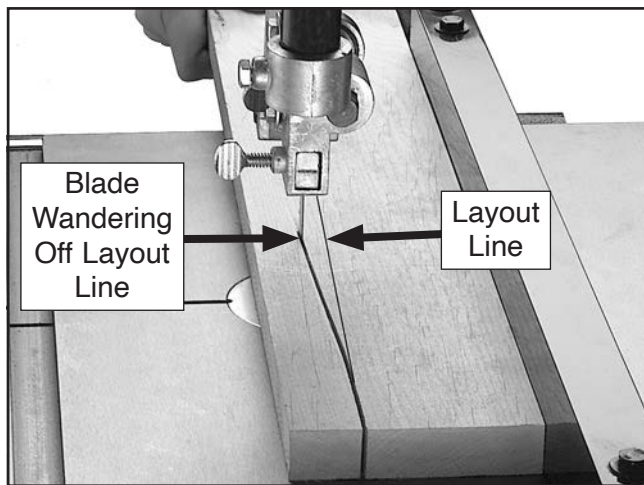

Figure 97. Example of blade lead.
Bandsaw blades may wander off of the layout line when sawing, as shown in **Figure 97**. This is called blade lead.
2. On wide face of board, draw a straight line parallel to long edge, similar to layout line shown in **Figure 97** on **This Page**.